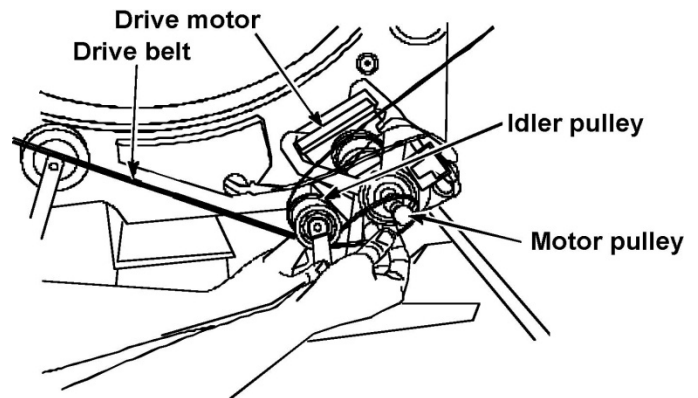

FIGURE 8
22. Place drive belt around drum. Install drum into dryer and finish installation of belt to pulley. Lift idler pulley upward, loop end of belt under idler, then slide belt onto motor pulley. See Figure 8.